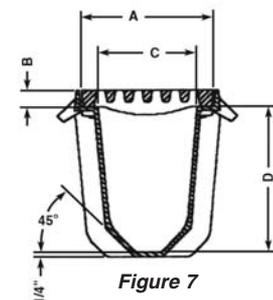
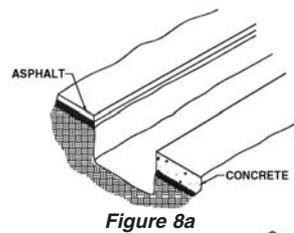

Figure 7
Figure 8a
- Use Figure 7 as a guide.
- Reinforcing bar can be installed per Figure 7.
Excavate trench to appropriate depth per design engineers specification. That depth must be the total of the "A" dimension and the "D" dimension plus the depth of additional masonry material specified. (see Figure 7 and Figure 8a)